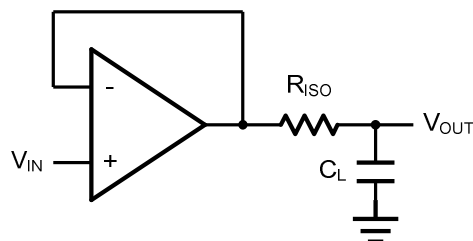
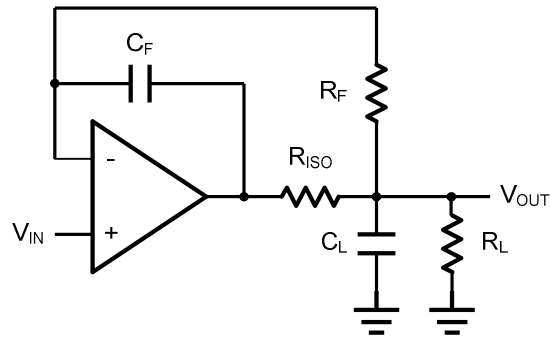

Figure 2. Indirectly Driving a Capacitive Load Using Isolation Resistor
Figure 3. Indirectly Driving a Capacitive Load with DC Accuracy
The HG855x family is optimized for bandwidth and speed, not for driving capacitive loads. Output capacitance will create a pole in the amplifier's feedback path, leading to excessive peaking and potential oscillation. If dealing with load capacitance is a requirement of the application, the two strategies to consider are (1) using a small resistor in series with the amplifier's output and the load capacitance and (2) reducing the bandwidth of the amplifier's feedback loop by increasing the overall noise gain. Figure 2. shows a unity gain follower using the series resistor strategy. The resistor isolates the output from the capacitance and, more importantly, creates a zero in the feedback path that compensates for the pole created by the output capacitance.
The circuit in Figure 3 is an improvement to the one in Figure 2. R_F provides the DC accuracy by feed-forward the V_{IN} to R_L . C_F